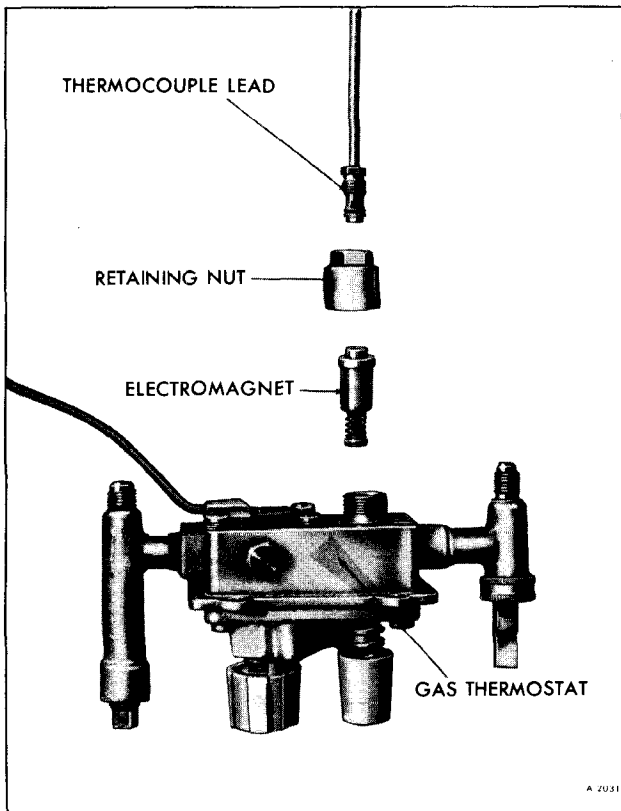

Figure 5—Thermocouple Lead and Electromagnet
3. Remove thermocouple lead from electromagnet as shown in Figure 5.
5. Remove thermocouple lead from thermostat (figure 5).